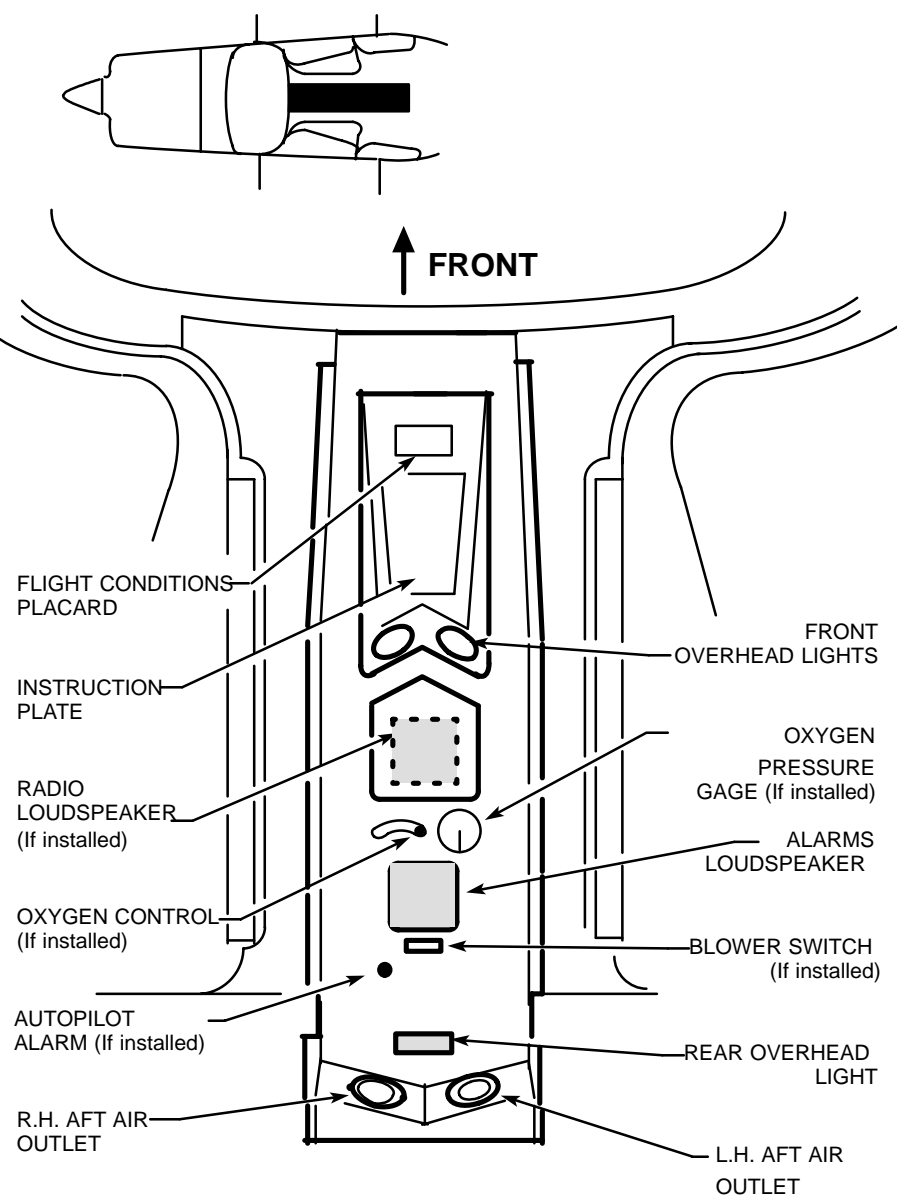

Figure 7.4 – UPPER DUCT CENTRAL PART
**Upper duct central part** (see Figure 7.4) contains fore to aft :